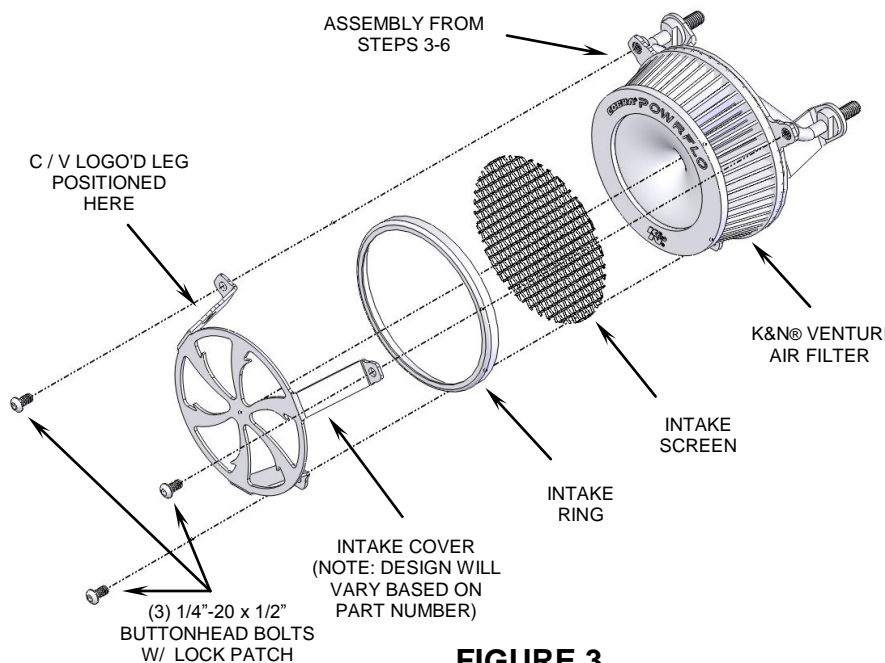

FIGURE 3
8. Place the supplied K&N® filter onto the velocity stack. Insert the round intake screen into the chrome ring so the screen sits inside the edge of the ring. Place the ring and screen between the legs of the naked chrome intake cover as shown in Figure 3.
9. Place the naked intake cover, ring and screen assembled in Step 8, over the air filter and align each leg to the base mounting plate threaded holes. Be sure screen sits at a 45 ° angle to the bottom leg, and C/V logo'd leg is at the upper left position. Insert the (3) supplied 1/4"-20 x 1/2" buttonhead bolts through the intake cover and into the base mounting plate, see Figure 3. Double check all parts are aligned properly and tighten securely.